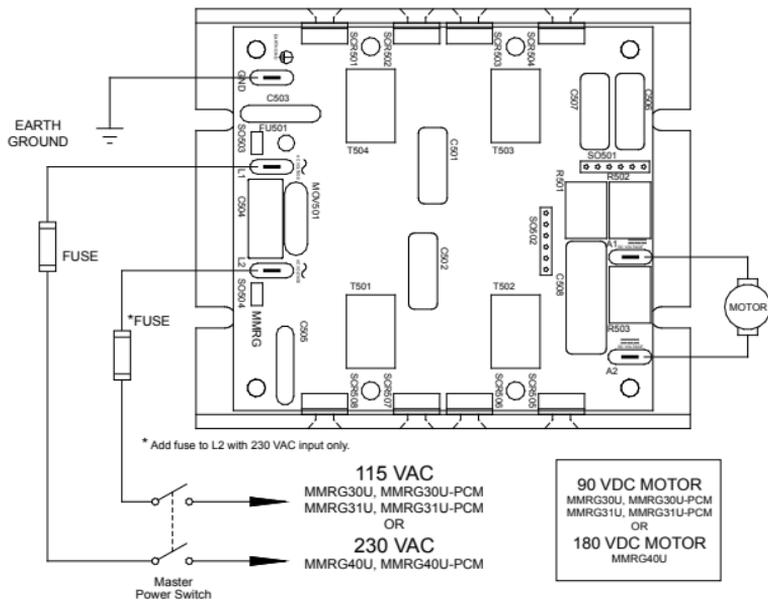

Figure 6. Power and Motor Connections
**Minarik Drives strongly recommends the installation of a master power switch in the voltage input line, as shown in Figure 6 (page 13).** The switch contacts should be rated at a minimum of 200% of motor nameplate current and 250 volts.
Connect the AC line power leads to terminals L1 and L2. Minarik Drives recommends the use of a single-throw, double-pole master power switch. The switch should be rated at a minimum of 250 volts and 200% of motor current. Refer to Figure 6 on page 13.
Connect a DC motor to terminals A1 and A2 as shown in Figure 6 on page 13. Ensure that the motor voltage rating is consistent with the drive's output voltage.
For this reason, Minarik Drives strongly recommends installing an emergency stop switch on both AC line inputs (see Figure 6 on page 13).